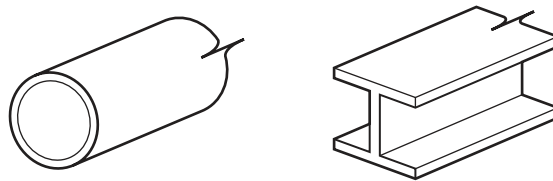

Fig. 2
- 3 Which process would be used to produce the plastic sections shown in Fig. 2?